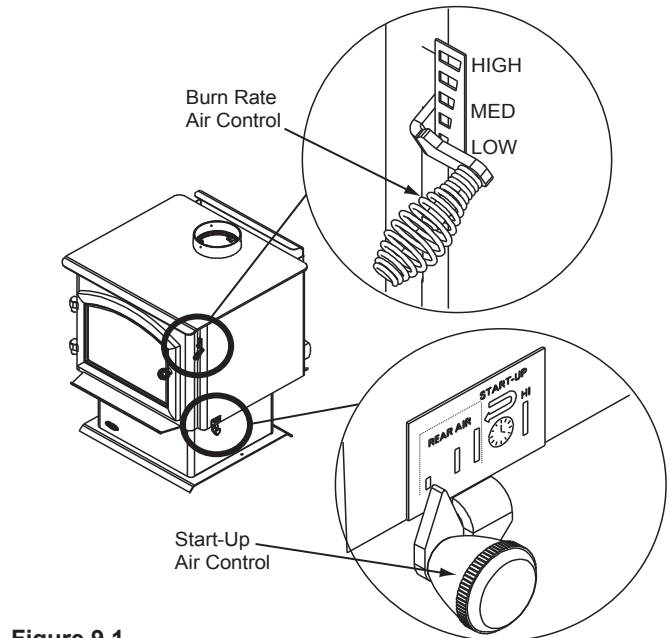

Figure 9.1
The next stage of burning, the secondary stage, is the period when the wood gives off flammable gases which burn above the fuel with bright flames. During this stage of burning it is very important that the flames be maintained and not allowed to go out. This will ensure the cleanest possible fire. If the flames tend to go out, it is set too low for your burning conditions. The air control located at the upper right hand corner is used to adjust for burn rates. This is called the Burn Rate Air Control (Figure 9.1 on page 9).
This air supply enters at the upper front of the firebox, near the top of the glass door. This preheated air supplies the necessary fresh oxygen to mix with the unburned gases, helping to create second, third and fourth combustions. This air is regulated by the Burn Rate Air Control. When the control is moved all the way up it is on the High setting and when moved all the way down it is on the Low setting (**Figure 9.1**).
Open both Burn Rate Air Control and ACC systems fully. To do this with the Burn Rate Air Controls push spring handle up to high. For the ACC timer system push knob towards back of appliance until the knob is located under the high position (**Figure 9.1**).
To maximize heat output with the ACC timer System or also known as high burn push the ACC Air Control lever towards the back of the appliance and leave. This combined with having the main burn rate control lever pushed up will deliver the most amount of air needed to achieve the highest amount of heat output (**Figure 9.1**).
- Then activate the ACC timer system by pushing the knob all the back toward the appliance to “HI” then pull forwards towards the front of the appliance until the knob stops (Figure 9.1 on page 9).